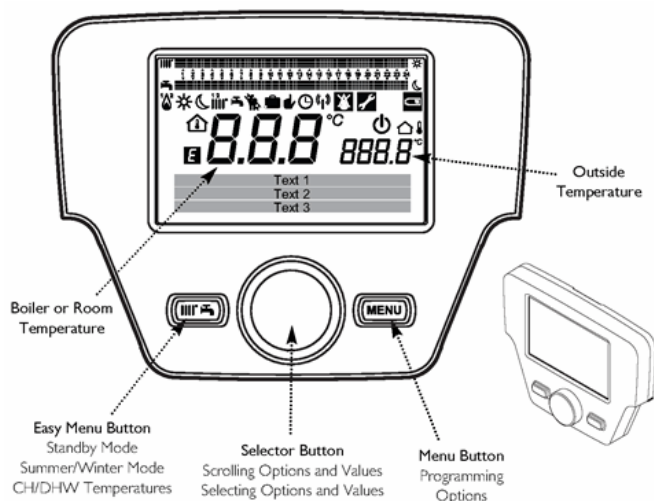

Fig. 42
10.12 THINK Controller, 5 LED Receiver and Wall Cradle Accessory (Figs. 42 & 43)
3. Press the menu button repeatedly until the standard screen is available. The Programmable Room Unit symbol should be shown on the screen if the THINK Controller has been configured correctly, see Fig. 42.
6. When correctly connected and once the 'Save sensor' procedure has been done (See Section 11.4), the outside temperature and icon will be display on the THINK Controller (See Section 10.12 and Fig 42).